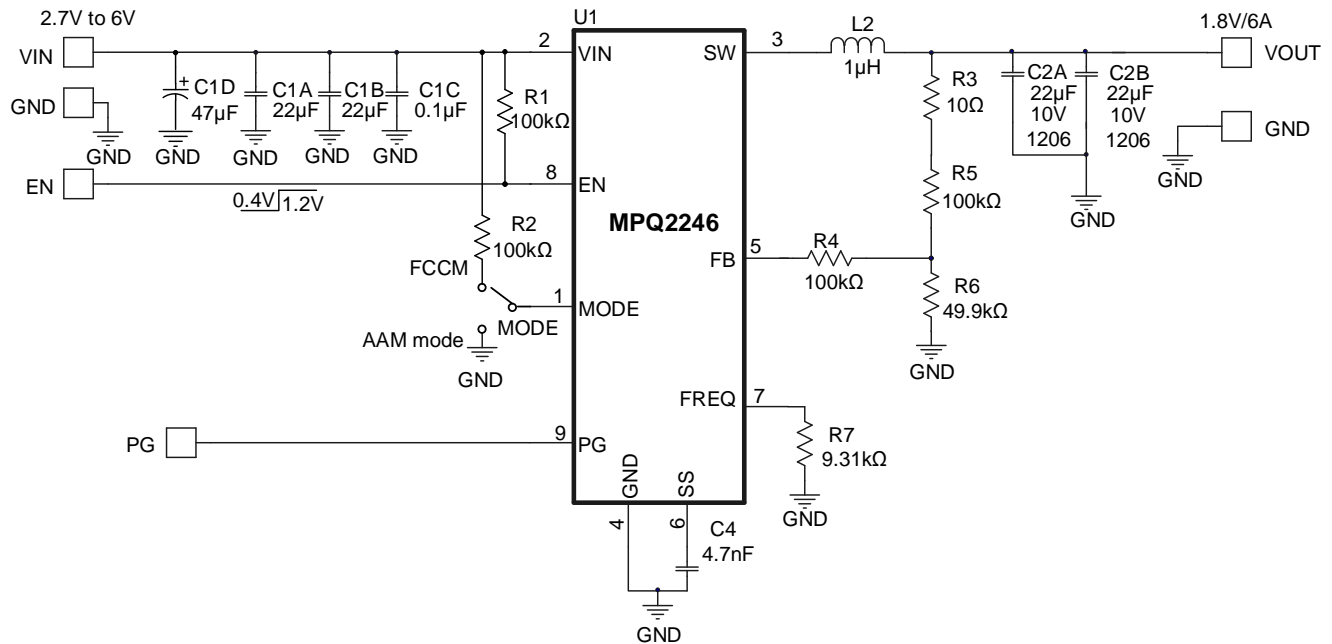

Figure 5: Typical Application Circuit ($V_{OUT} = 1.8V$, $I_{OUT} = 6A$)
- ⁽¹⁰⁾ The recommended PCB layout is based on Figure 5 on page 25.